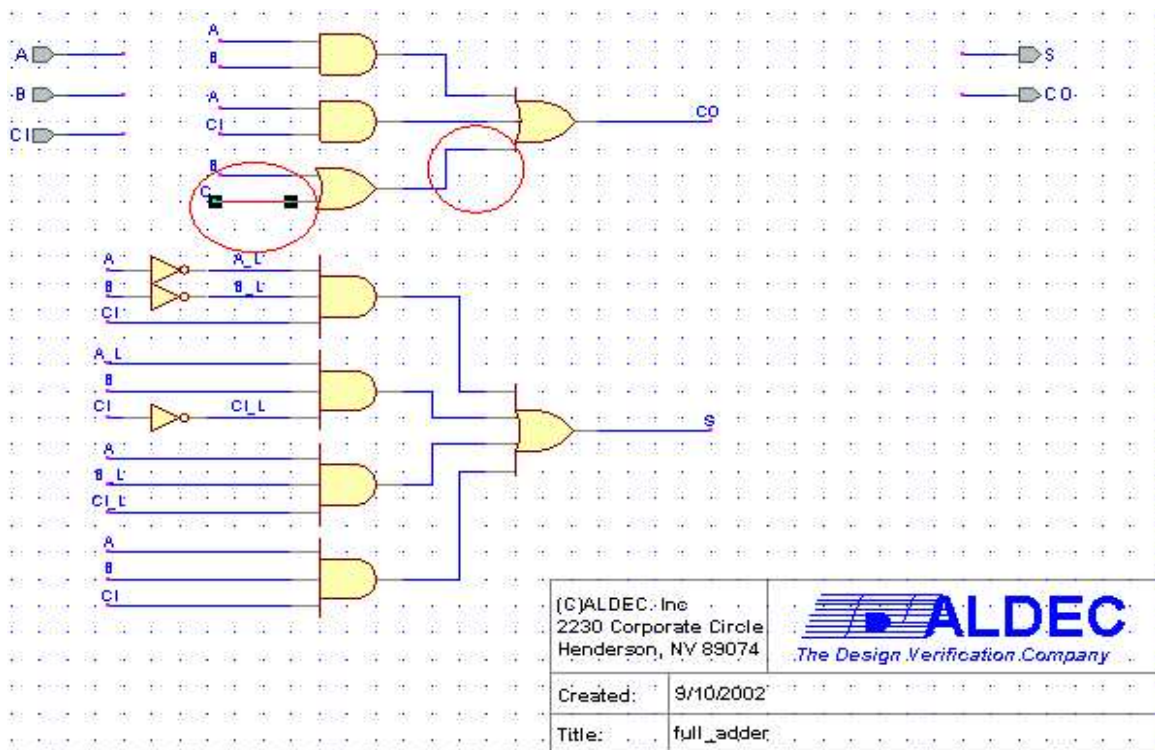

Figure 45
2. Clicking on the first line took us to the broken connection on the 3-input OR gate. The part in question was highlighted in a red box (not shown here). Therefore, we simply reestablished the connection by dragging the hanging wire to the 3-input OR gate port (shown fixed in Figure 45).
3. The second warning showed that net 'C' was without a source. Again, we clicked this hyperlink, and it took us to our schematic and highlighted the wire named 'C' in red (see Figure 45). The connection looked fine, but notice that we have no terminals by the name of 'C'. The terminal we wanted to connect from was 'CI'. This kind of mistake is common when naming connections, and Active-HDL is good at alerting us to this mistake.